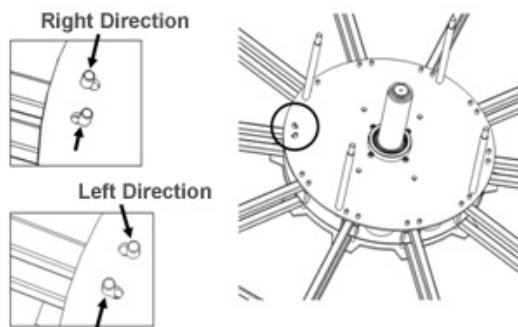

Fig. 7: Right Direction and Left Direction
7. Mounting the complete spoke wheel (respect the correct bearing hole see Fig. 7).